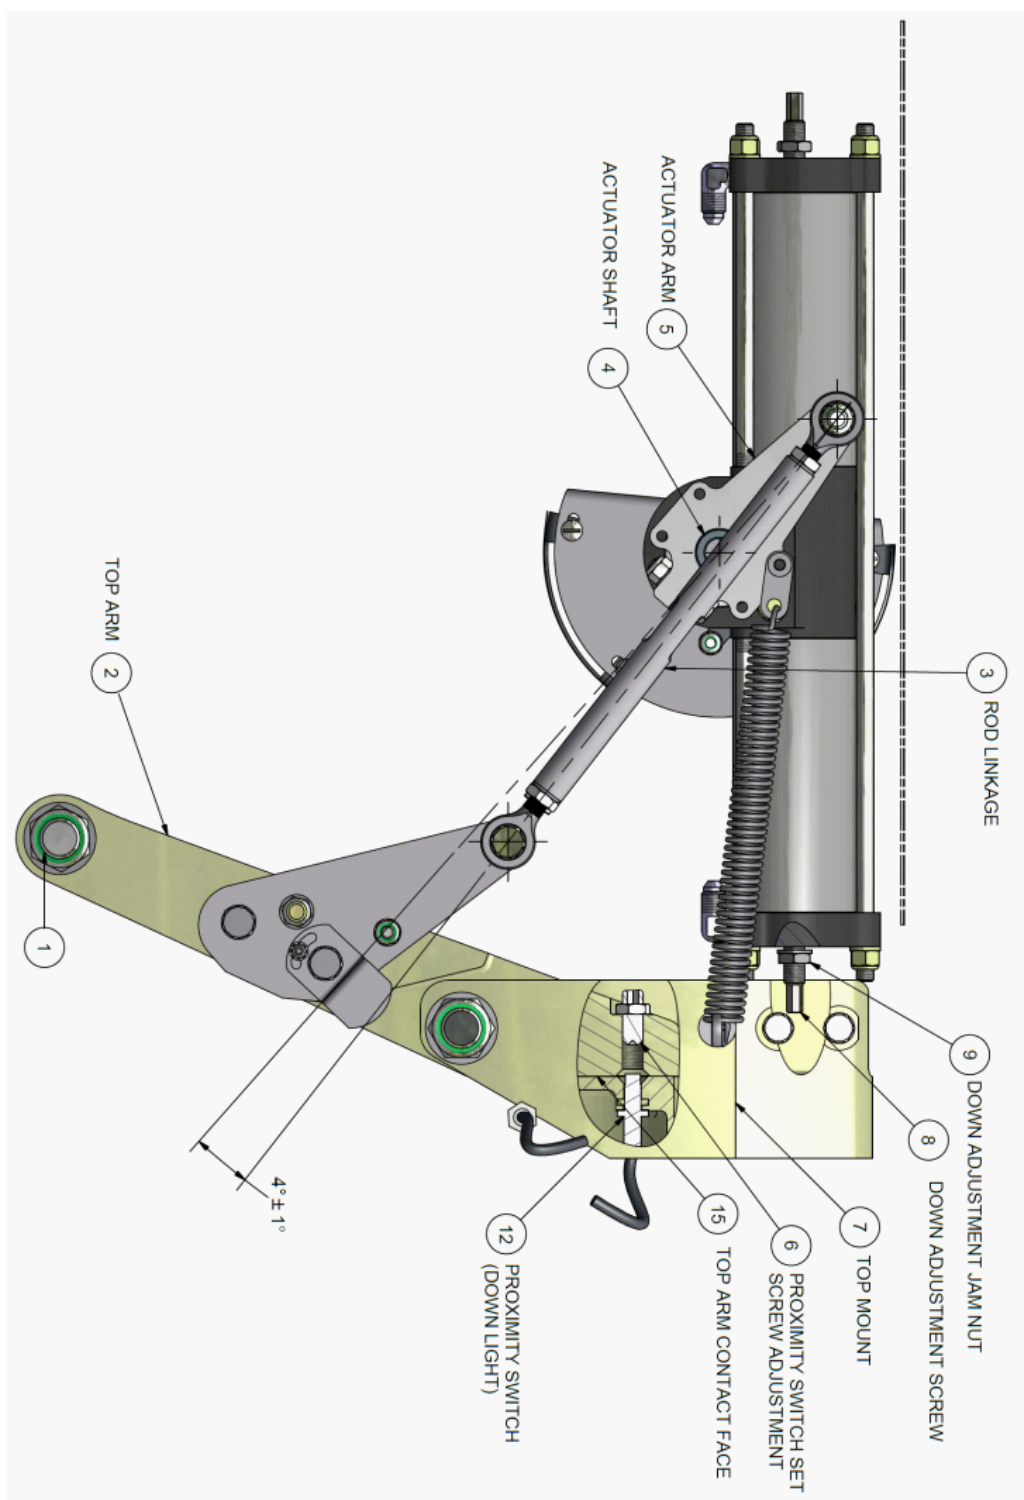

FIGURE 4-4A: MAIN GEAR ADJ. DOWN
There are two proximity switches on each main gear unit. One for sensing gear up position, and the other for gear down position. These are easily replaceable and can essentially be adjusted during maintenance, see figure 4-4A and 4-5. The proximity sensors have a built in LED to indicate when they are sensing the gear position. This feature greatly aids in the setup and servicing of the sensors.
(See figure 4-4A and 4-4B)
20. Visually inspect the Rod Linkage position (Item 3) versus the actuator shaft (Item 4). When rigged correctly, the bottom edge of the rod linkage should pass through the shaft as shown in Figure 4-4A.